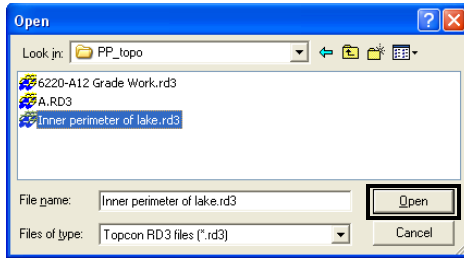

Figure 6-12. Open 3D Alignment File
2. On the **Open** dialog box, navigate to the location of the file, select the file type as Alignment (*.rd3), select the desired file, and click **Open** (Figure 6-12).
On the **Open** dialog box, navigate to the location of the file, select the file type as Alignment (*.rd3), select the desired file, and click **Open** (Figure 6-12).
2. On the **Open** dialog box, navigate to the location of the file, select the file type as Alignment (*.rd3), select the desired file, and press **Open** (Figure 6-12).